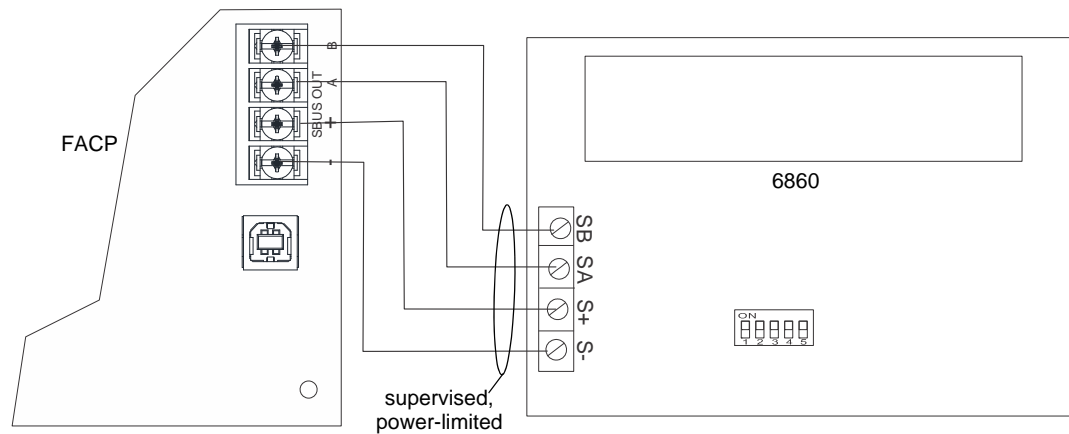

Figure 4.27 6860 Connection to the Panel
3. Wire the annunciator board to the main control panel as shown in Figure 4.27.
7. Run wires to the control panel. Refer to Figure 4.27.